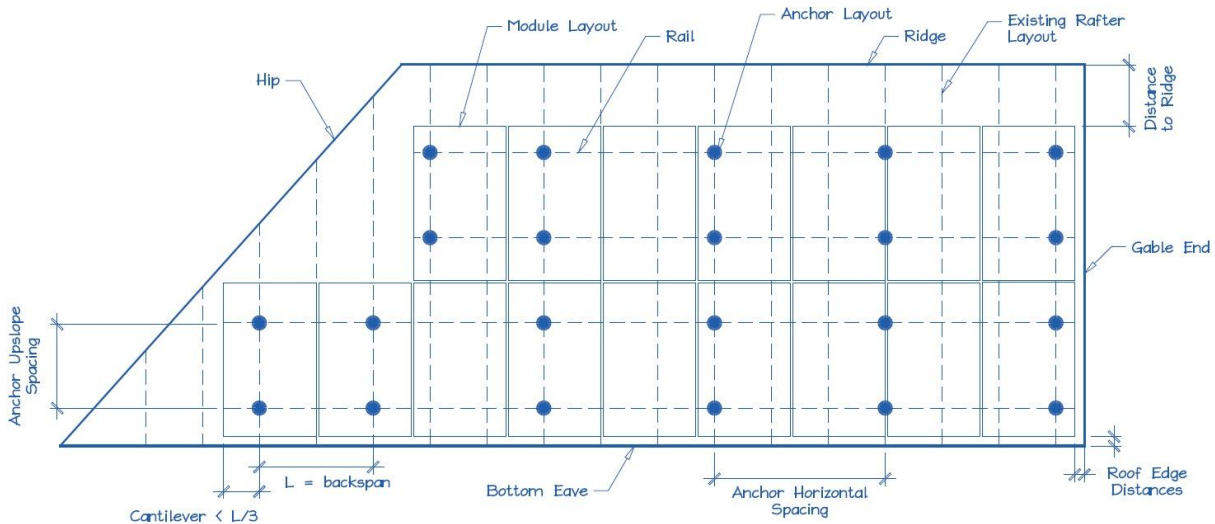

Figure 2. Sample Solar Panel Array and Anchor Layout Diagram (Roof Plan).
- E. Is a roof plan of the module and anchor layout attached? (see Figure 2) Y N
- 1) Proposed anchor horizontal spacing (see Figure 2): _____' - _____"ft-in
1. Anchors are also known as "stand-offs," "mounts" or "points of attachment." Horizontal anchor spacing is also known as "cross-slope" or "east-west" anchor spacing (see Figure 2).